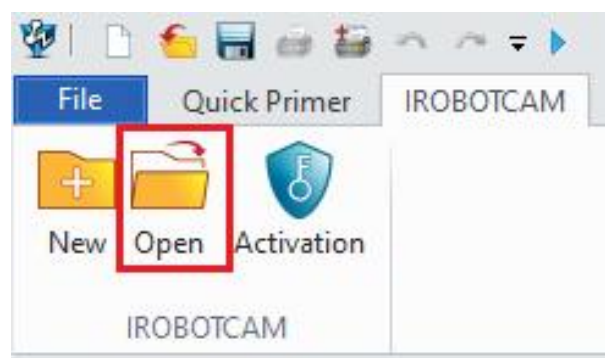

Figure 5-2: IROBOTCAM Environment Entry
- Open iRobotCAM project file named "Define Basic Mechatronic Objects. Z3" to access the IROBOTCAM environment. (Figure 5-2)